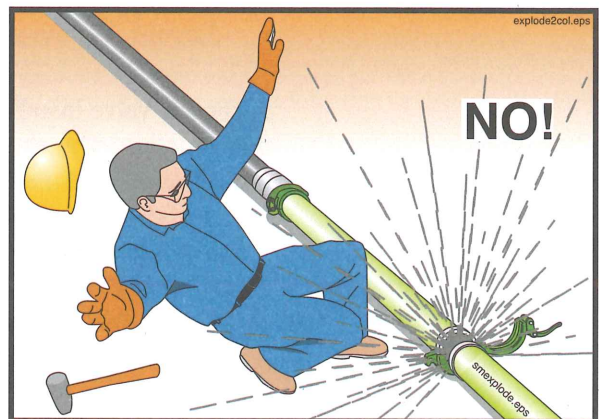

Figure 32
- **The pipeline must not be disassembled until it has been completely relieved of air. Be sure of this! (See Figure 32.)**